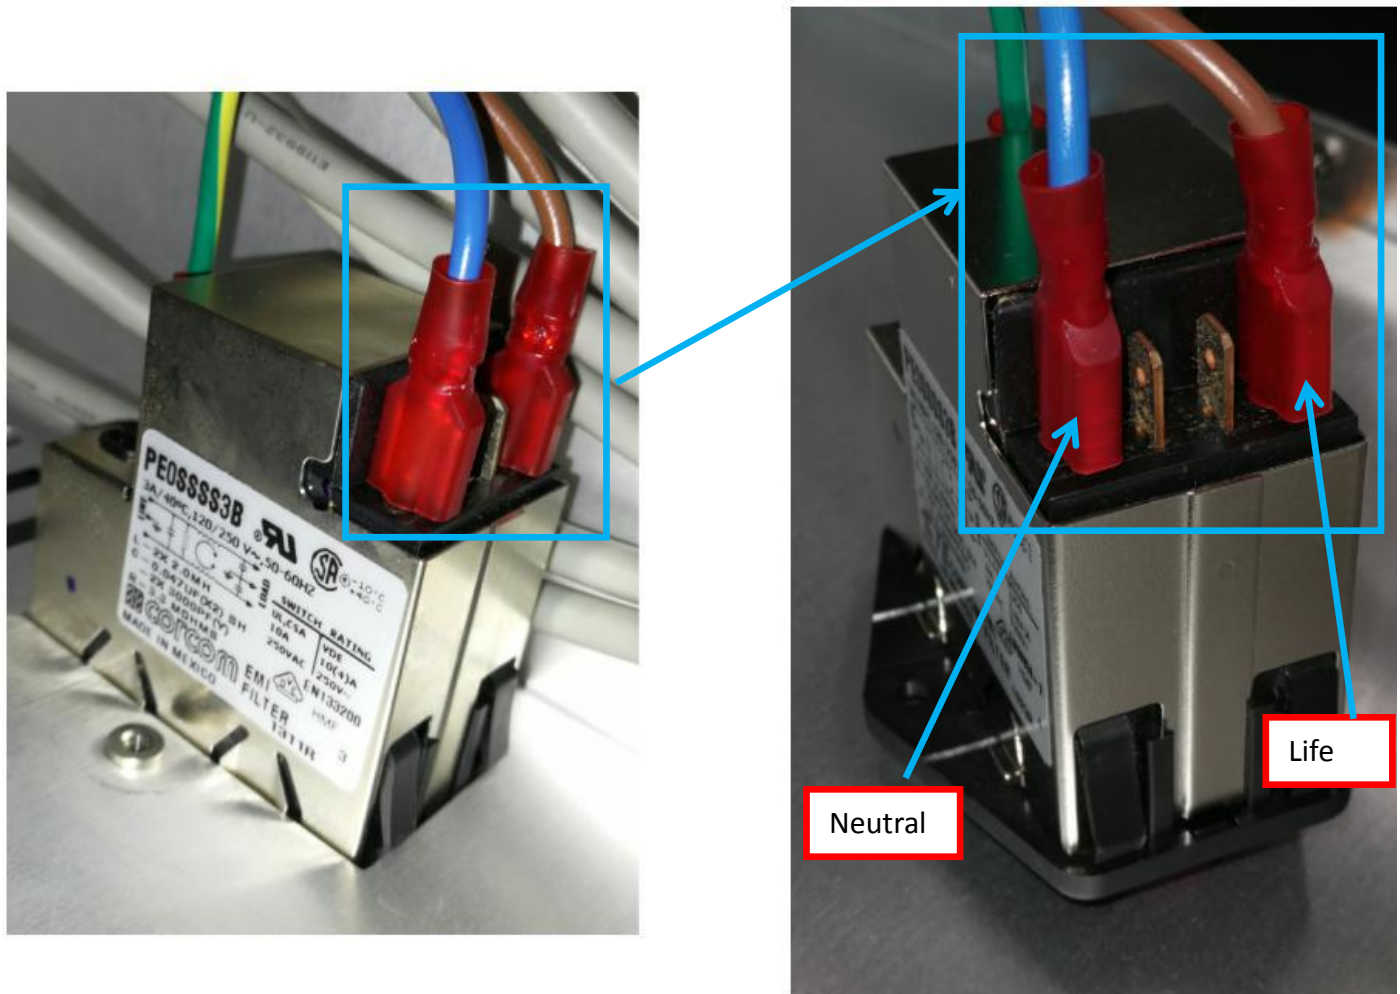

Figure 28 Power Switch Power Cable connection
12. Connect Power Switch Life & Neutral Cable into Power Switch by refer to below orientation. May refer to Figure 28